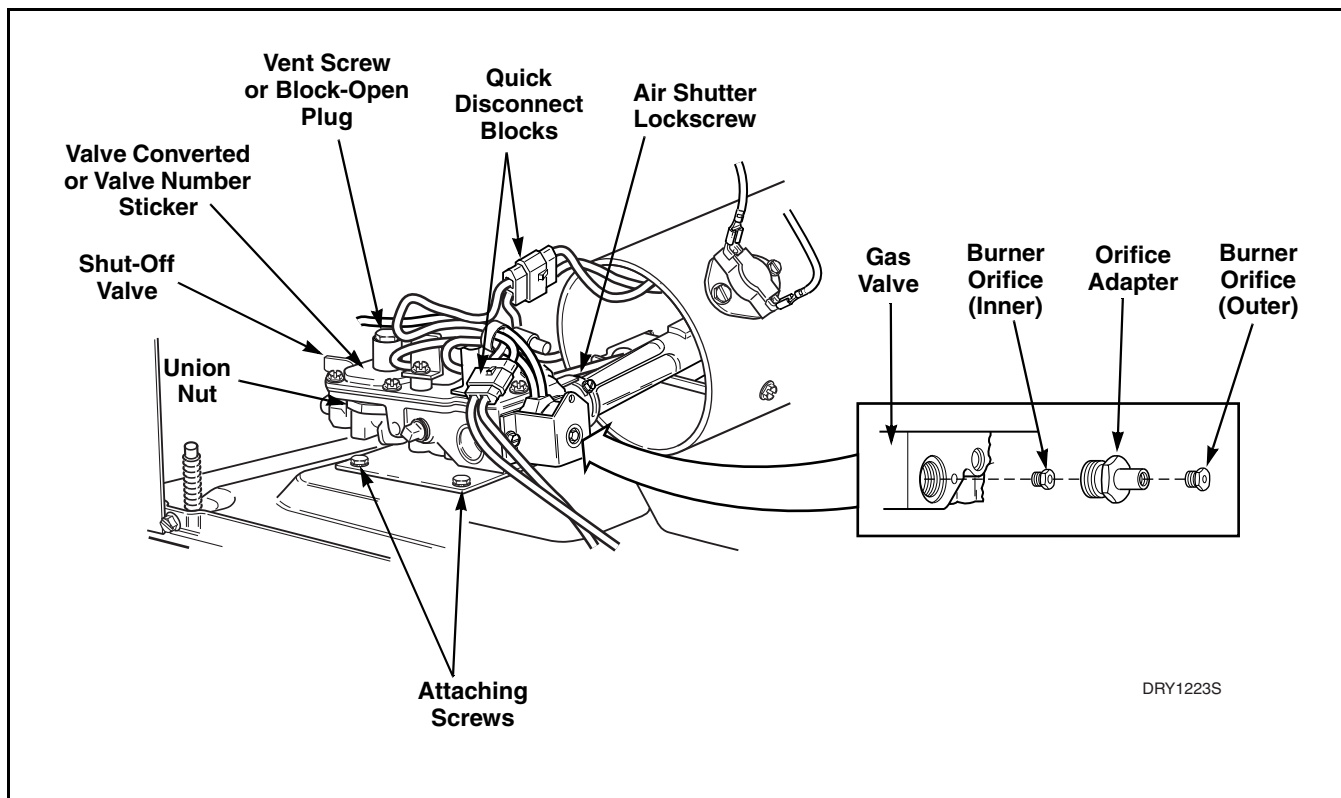

Figure 46
Refer to *Figure 46*
- (1) Remove the outer burner orifice from the orifice adapter and install No. 56978 Burner Orifice (metal stamped No. 53T). Torque new burner orifice to 15 inch pounds (1.7 Nm).
- (2) Remove burner orifice adapter from gas valve.
- (3) Remove inner burner orifice from gas valve body, then install No. 56977 Burner Orifice (metal stamped No. 53). Torque new burner orifice to 15 inch pounds (1.7 Nm).
- (4) Install burner orifice adapter (removed in step two) on gas valve. Torque orifice adapter to 15 inch pounds (1.7 Nm).
- (5) Remove the vent screw and install No. 53390 Block-Open Plug and Gasket.
(6) Install No. 55753 “Valve Converted” Sticker to top side of gas valve so it covers the gas valve part number. Refer to *Figure 46*.
(7) Install No. 56426 L.P. Gas Sticker over the old sticker on rear of cabinet, and apply No. 56979 Change-Over Sticker to inside of the loading door opening above the serial plate.
(8) Install gas valve assembly into dryer and connect union nut.
(9) Open shut-off valve in gas supply line and check all pipe connections for gas leaks.
(10) Connect electrical service to dryer.
(11) Start dryer and observe burner flame through access door opening. Adjust air shutter to obtain a soft, uniform flame. (A lazy, orange tipped flame indicates lack of air. A harsh, roaring, very blue flame indicates too much air.) Adjust air shutter to obtain a soft uniform blue flame as follows:
(12) Reinstall access door.
- (5) Remove the block-open plug and install No. 53952 Vent Screw.
- (6) Install No. 56981 Valve Number Sticker on top side of gas valve so it covers the gas valve converted sticker. Refer to *Figure 46*.
- (7) Install No. 56427 Natural Gas Sticker over the old sticker on rear of cabinet, and apply No. 56980 Change-Over Sticker to inside of the loading door opening above the serial plate.
- (8) Install gas valve assembly into dryer and connect union nut.
- (9) Open shut-off valve in gas supply line and check all pipe connections for gas leaks.
- (10) Connect electrical service to dryer.
- (11) Start dryer and observe burner flame through access door opening. Adjust air shutter to obtain a soft, uniform flame. (A lazy, orange tipped flame indicates lack of air. A harsh, roaring, very blue flame indicates too much air.) Adjust air shutter to obtain a soft uniform blue flame as follows:
- (12) Reinstall access door.